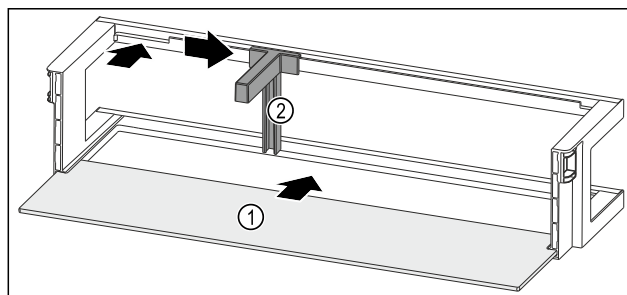

Fig. 202 Door rack with shelf
- Push the shelf Fig. 202 (1) into the side recesses.
- Insert the bottle holder Fig. 202 (2) in the recess.
- Push the bottle holder Fig. 202 (2) to the desired position to the side.